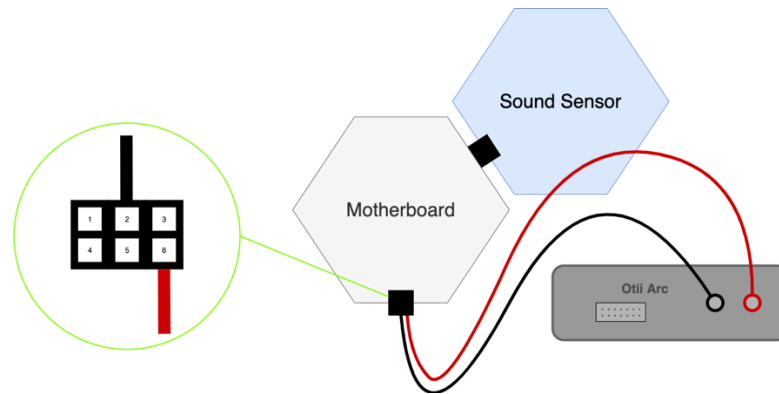

Figure 27 Connect the motherboard, the sound board and the Otii Arc (LOC 1)
1. Plug the motherboard, the sound board and the *Otii ARC* according to the scheme fig. 27 (refer to annex A in order to understand how to configure the measuring device *Otii ARC*).